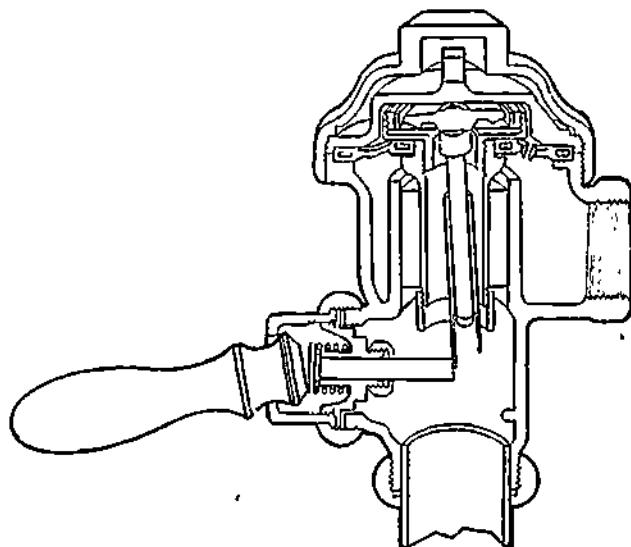

Figure 23-20. Diaphragm-Type Direct-Flush Valve
60. Figure 23-20 illustrates a diaphragm-type direct-flush valve.